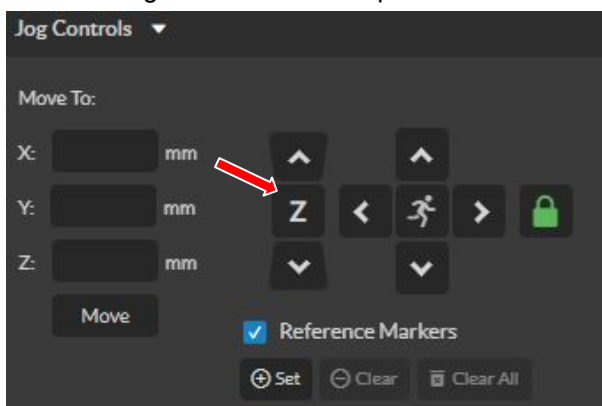

Fig. 22
3. Select the Jog Control arrow to open menu and select the **Z** autofocus button.(See Fig. 22)